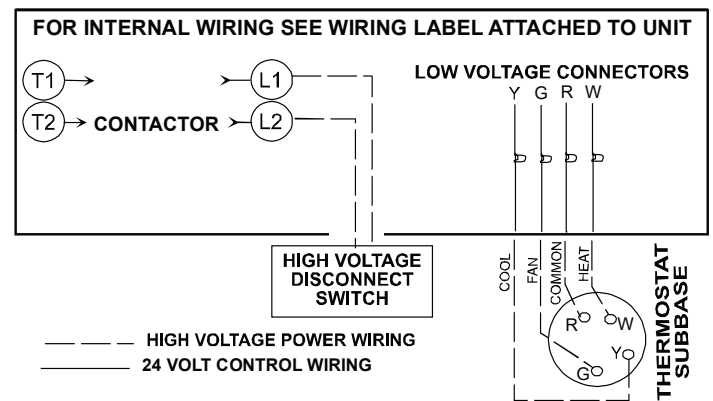

FIGURE 6
**HIGH VOLTAGE WIRING: (SEE FIGURE 6)**
**LOW VOLTAGE WIRING: (SEE FIGURE 6)**